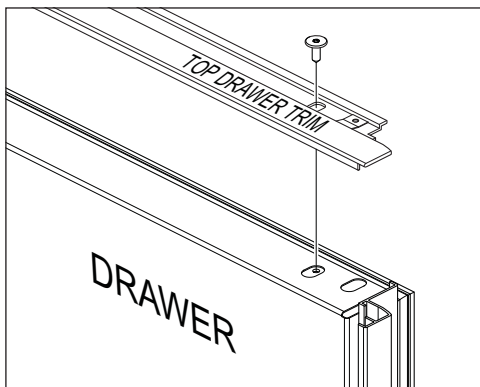

Figure 5. Top Trim Removal
2. With a T-20, 6-lobe Torx type bit, extract the top trim mounting screws and pull the top trim from the drawer (See Figure 5).